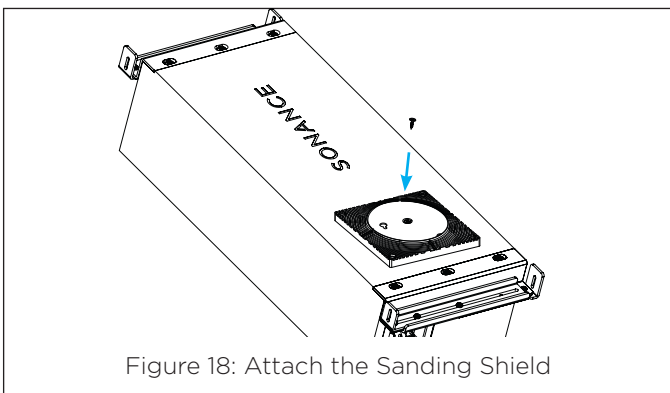

Figure 18: Attach the Sanding Shield
- Secure it to the paint shield using the included screw (see Figure 18).